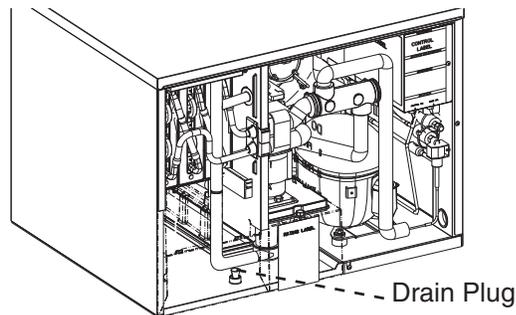

Fig. 18
2b)(1) For **KM-330_530_730MAK** - Remove the front insulation panel, then remove the water tank drain plug located in the bottom of the water tank. See Fig. 18. Allow the water tank to drain.